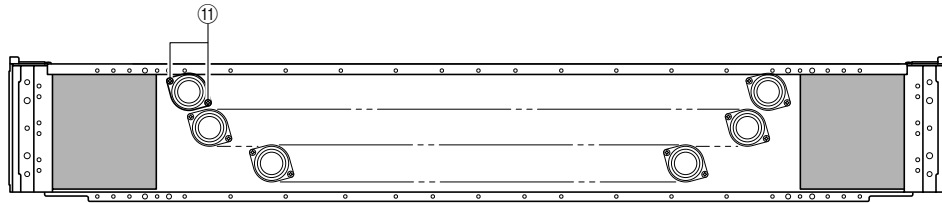

Fig. 11
- Remove 2 screws/piece marked (⑪). (Fig. 11)
- ⑪のネジ2本/個を外します。(Fig. 11)